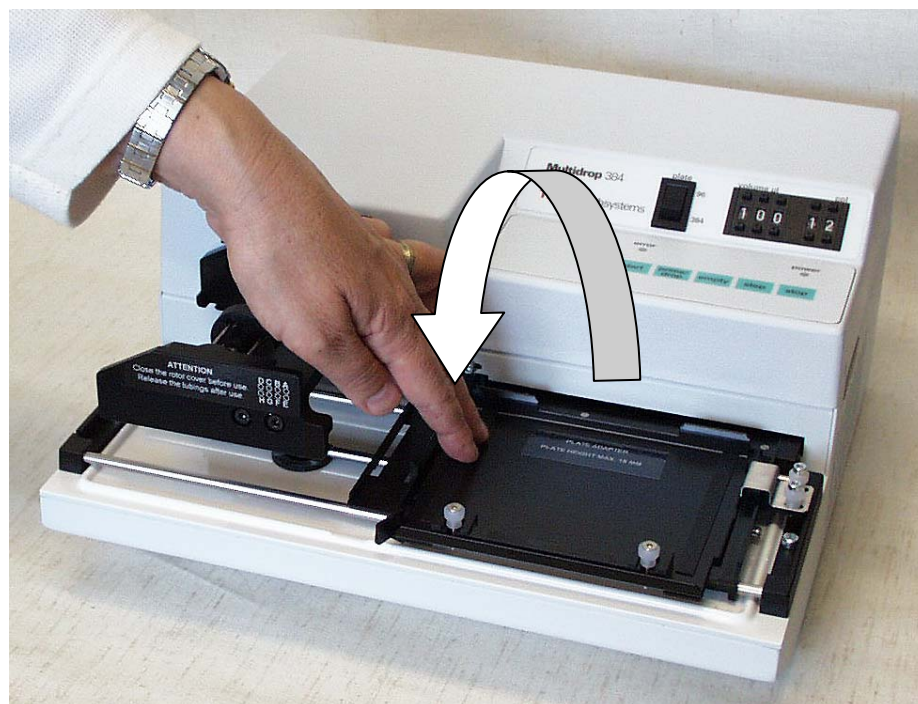

Fig. 6.10 Pressing the left end of the plate adapter
3. Then press the left end of the plate adapter onto the plate carrier (Fig. 6.10).